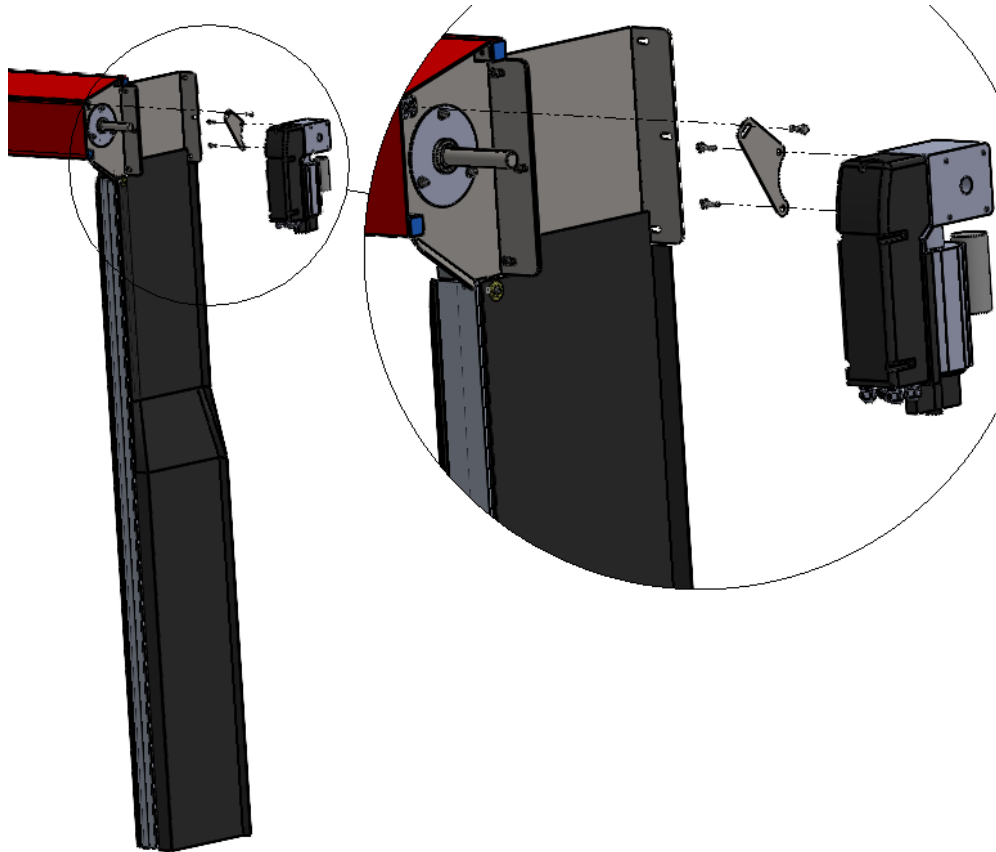

Figure 13 MOUNT ANTI-TORQUE BRACKET AND OPERATOR
1. Mount the Anti-Torque Bracket to the Operator with two (2) Metric screws (supplied). (Figure 13 MOUNT ANTI-TORQUE BRACKET AND OPERATOR)